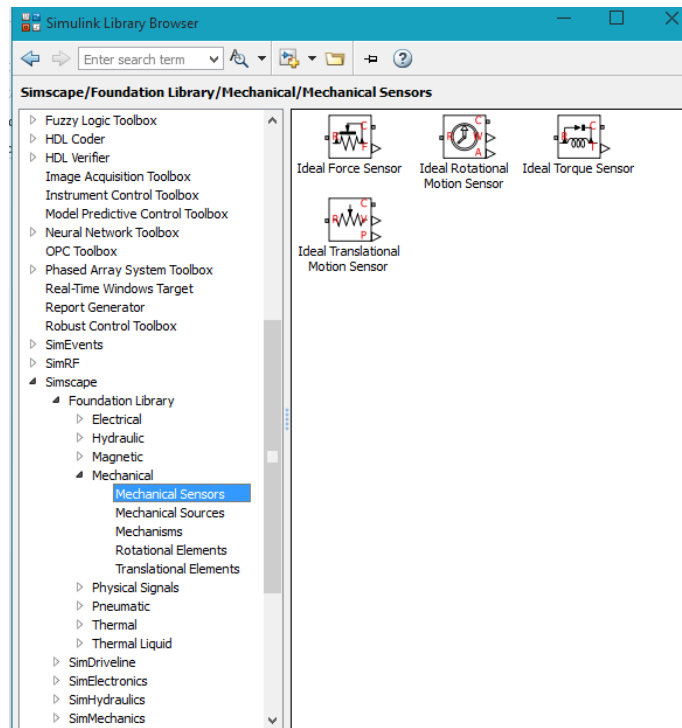
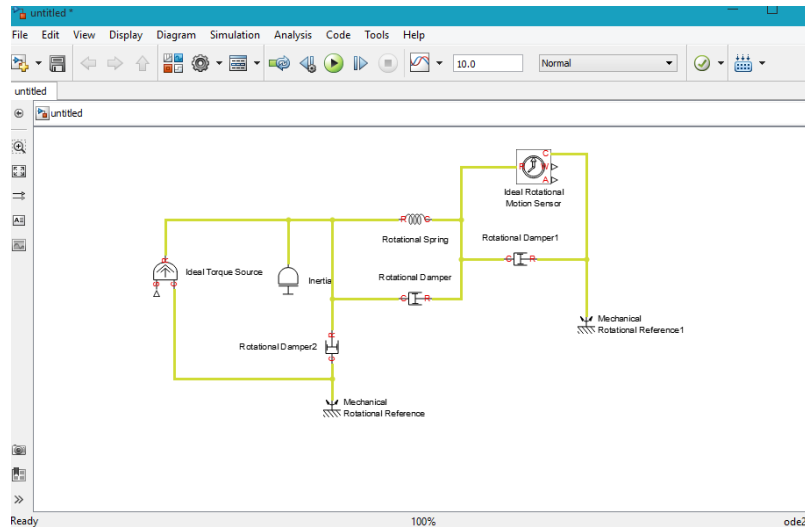

Figure 3.18: Mechanical Sensors Library
Figure 3.19: Block Diagram
19. Add the sensor to measure angular speed and angular position at $\theta_2(t)$. Place the Ideal Rotational Motion Sensor block from the **Mechanical Sensors library** figure 3.18 into your diagram and connect it as shown in figure 3.19.